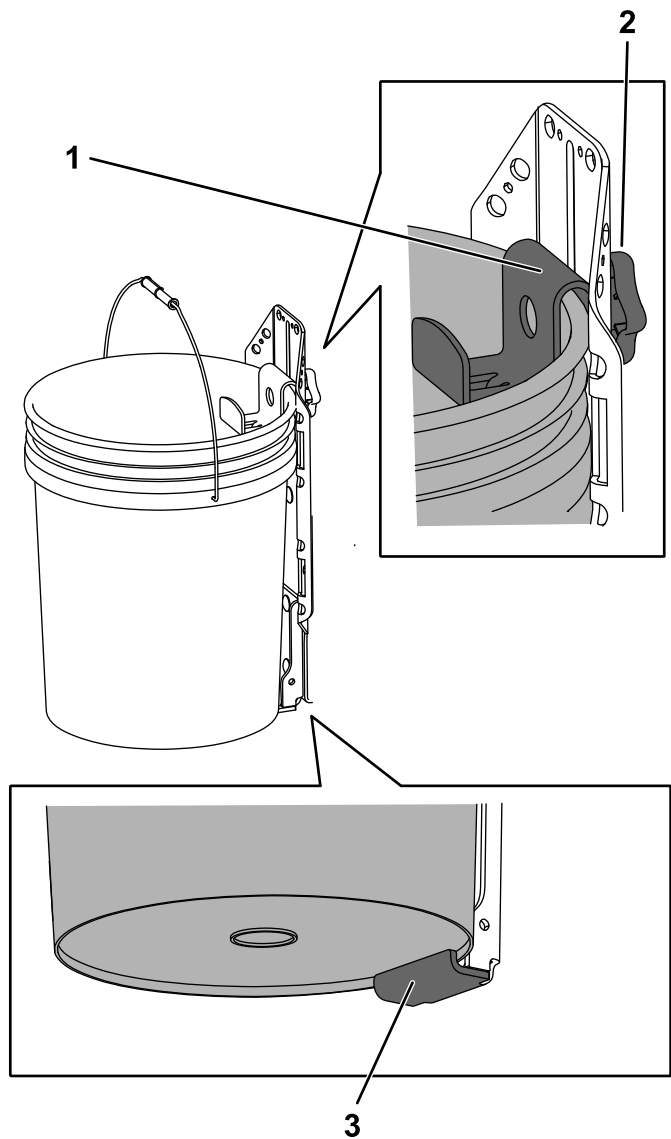

Figure 7
1. Loosen the knob and raise the top bracket. Tighten the knob to hold it in place (Figure 7).
2. Place the bottom lip of the bucket over the bottom ledge of the welded support bracket (Figure 7).
3. Loosen the knob and lower the top bracket as far as possible over the rim of the bucket. Tighten the knob (Figure 7).